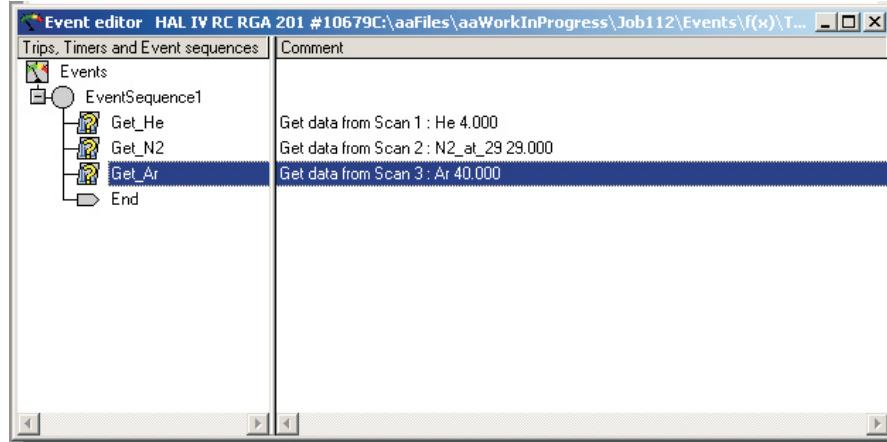

Figure 62 Event sequence with three get events
- 49. Repeat steps 33. to 35. to added a Get_Ar data event with the Scan 3: Ar 40.000 data read from the scan. The event sequence should now look like the one shown in Figure 62.